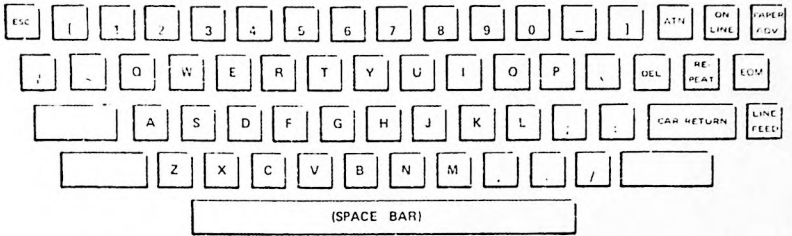

Figure 4. Keyboard Codes Generated when Shift and Control Keys are not Depressed
1. Unshifted character set shown in Figure 4.